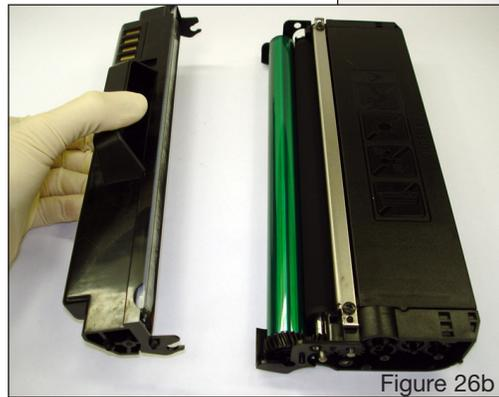

Figure 26a
4. Lay the new drum back in the tray on the hopper section where the old drum was removed. Move the waste section so that the holes for the drum axle line up with the holes in the drum and the hopper section as shown in Figure 26a & 26b.